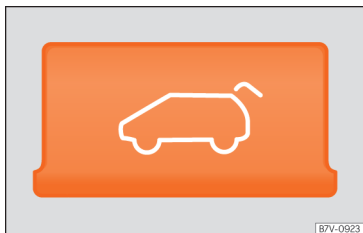

Fig. 102 Detailed view of the centre console: rear lid unlocking button.
- Press the  button on the centre console »» **Fig. 102**. The rear lid will be automatically opened.
- **OR:** press and hold the  button on the centre console for approximately one second **» Fig. 102.**